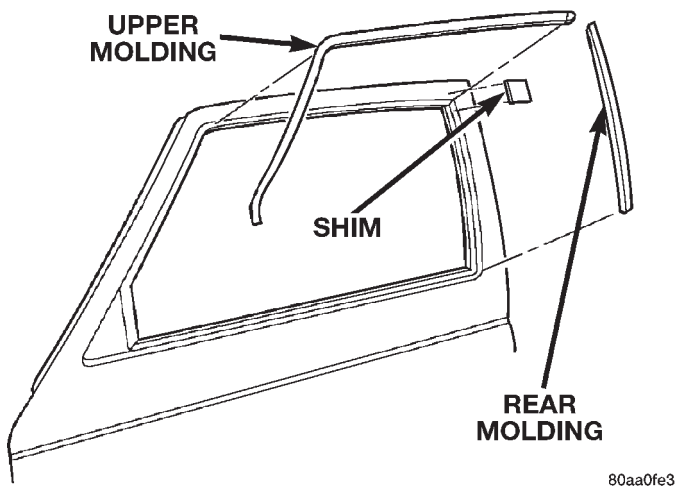

Fig. 36 Front Door Glass Exterior Molding
- (1) Open the window completely.
- (2) Remove the outer belt weatherstrip.
- (3) Pry and pull the molding sections from the door panel flange (Fig. 36).